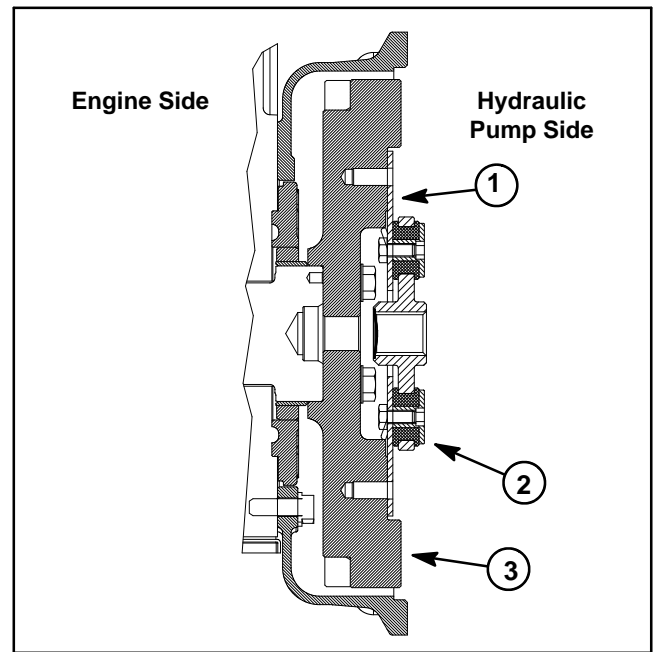

Figure 13
1. Position spring coupler to engine flywheel and align mounting holes. Make sure that coupling hub is away from engine flywheel (Fig. 13).
2. Apply Loctite #242 (or equivalent) to threads of bolts (item 6). Secure coupler to flywheel with six (6) bolts and hardened washers. Torque bolts in a crossing pattern from **29 to 33 ft-lb (40 to 44 N-m)**.
3. Position flywheel plate to engine. Make sure that boss on plate is orientated down. Secure flywheel plate with cap screws (item 7) and hardened washers using a crossing pattern tightening procedure.